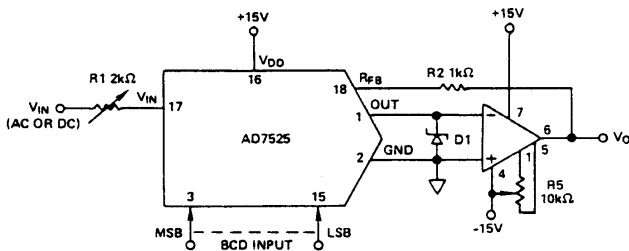

Figure 4. Digitally Controlled Attenuator Circuit
3. The inputs of some IC amplifiers (especially high speed types) present a low impedance to $V-$ during power sequencing. To prevent the AD7525 OUT terminal (pin 1) from exceeding $-300mV$ (which causes catastrophic substrate current), a Schottky diode, HSCH 1001 or equivalent, is recommended. While not required for most amplifier types, provision for the diode should be made during layout. The diode should be connected between OUT (pin 1) and GND (pin 2) as shown in Figure 4. Protection Schottkys not required when using TRI-FET output amplifiers such as the AD542 or AD544.